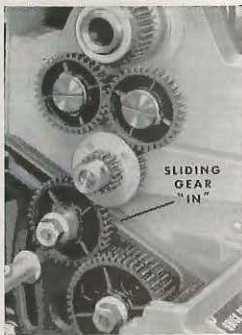
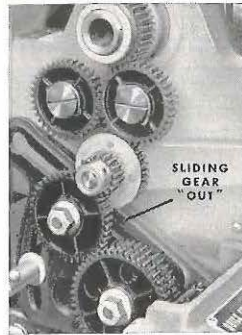

Fig. 160. Sliding Gear in IN Position—meshes with the 32 tooth compound gear.
Fig. 161. Sliding Gear in OUT Position—meshes with the 16 tooth compound gear.
- D. Sliding Gear - has two positions - IN and OUT as shown on the chart. IN position is toward headstock and meshes with the 32 tooth compound gear, see Figure 160. OUT position, Figure 161, is away from headstock and meshes with the 16 tooth compound gear. Loosen T-clamp to mesh the sliding gear with the compound tumbler gear. The position of the sliding gear is shown on the chart in the same row as the thread or feed desired.